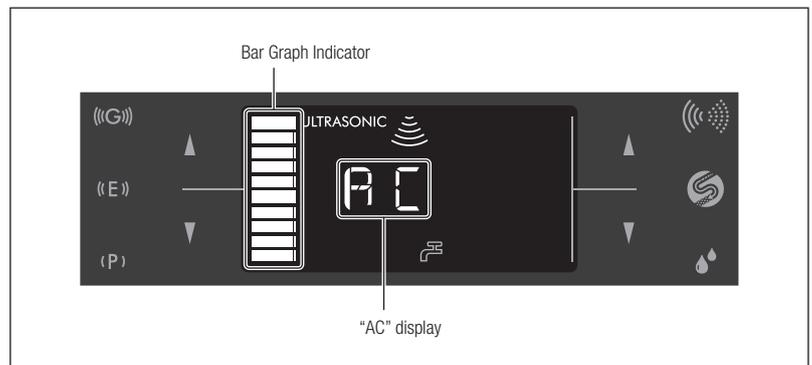

Fig. 35
- 7) Touch and hold the Auto-Cleaning Key for about 3 seconds to start Auto-Cleaning. Auto-Cleaning takes about 45 seconds. "AC" is displayed on the LCD Panel during Auto-Cleaning and the approximate remaining time is displayed in the Bar Graph Indicator (Fig. 35).